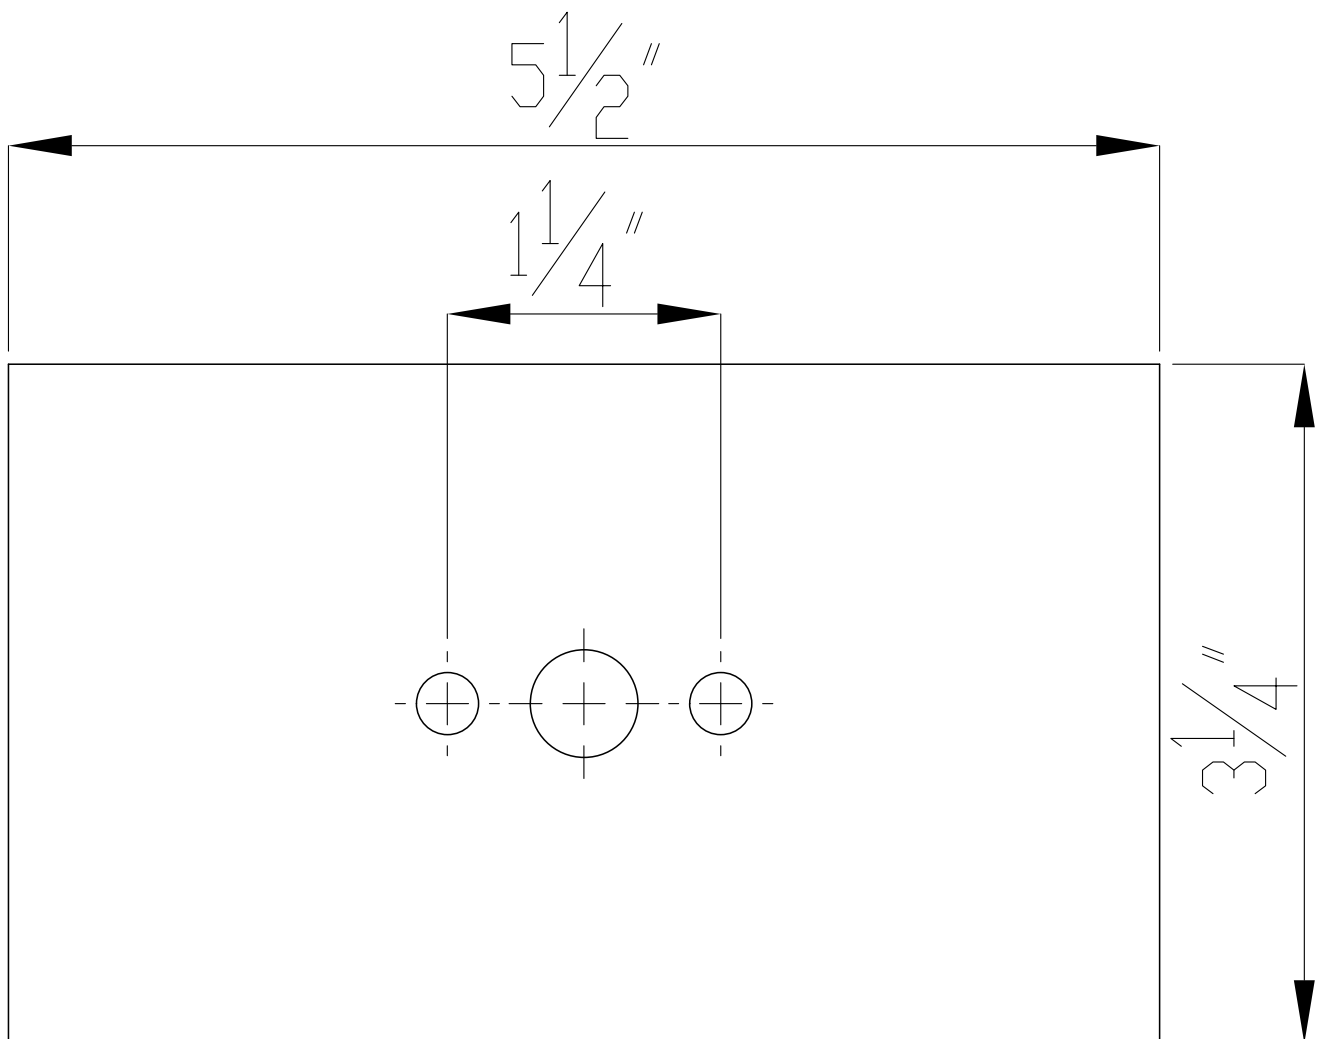

Fig. 1
2. Install a 12VAC output magnetic transformer in an accessible location, and run low voltage outdoor power cable (A) from the transformer to the desired bollard location in accordance with local codes. To avoid excessive voltage drop, you must use power cable with appropriate wire gauge for the distance and load of your system. The bollards can accept an input voltage from 10 to 15VAC.
3. **For Concrete Mounting:** Using the provided temporary template (Fig. 1), cast the anchor bolts (B) and low voltage outdoor power cable (A) into a concrete footing (C). Arrange the anchor bolts so at least 1/2" of threaded and no unthreaded length is exposed above the concrete. Arrange the power cable so that it is in the center of the template, with at least 6" of cable exposed above the concrete.
4. **For Concrete Mounting:** Once the concrete (C) has fully cured, remove and discard the template.
5. **For Concrete Mounting:** Place mounting plate (D) over the anchor bolts (B) and power cable (A). Secure with mounting nuts (E).
**For Wood Mounting:** Place mounting plate (D) over the power cable (A) and secure with lag screws (not included).
6. Make appropriate electrical connections using outdoor wire nuts (F):
- a. Connect one of the power cable (A) conductors to one of the fixture's input conductors.
- b. Connect the other power cable (A) conductor to the fixture's other input conductor.
- c. Carefully place the conductors and connections into the post (G).
7. Place the post (G) over the mounting plate (D). Secure with mounting screws (H).
8. Install 12VAC GU5.3 base MR16 LED bulb (J). The bulb must be a thermally protected LED bulb, e.g. Sora brand.
9. Install cover plate (K) using cover plate screws (L).